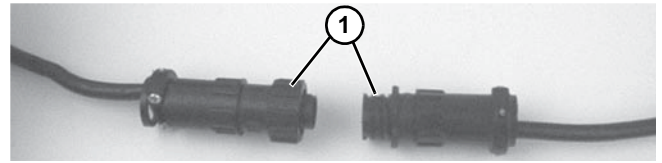

Figure 15
3. For DC variable speed motor, unplug motor cord at disconnect (**Figure 15, item 1**).